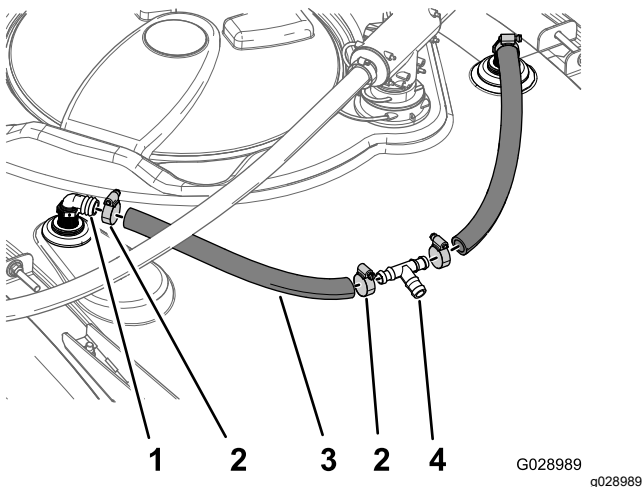

Figure 45
1. Assemble a hose 1.9 x 48.3 cm (3/4 x 19 inch) onto each of the 90° barbed fittings at the 2 rinse nozzles (Figure 45).
2. Secure the hoses to the 90° barbed fittings with hose clamps (Figure 45).
3. Insert the barbed T-fitting into free end of each hose (Figure 45).
4. Align the barbed T-fitting so that the side of the lower barb is flush to the sprayer tank and secure the hoses to the T-fitting with 2 hose clamps (Figure 45).